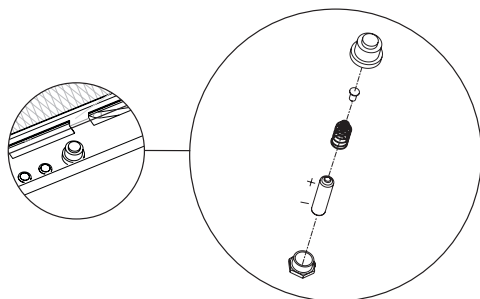

Figure 25
4. Unscrew the igniter button and install the AA battery provided in the instruction envelope prior to closing the control door. **See Figure 25.**